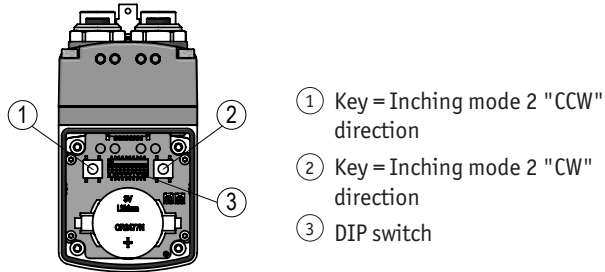
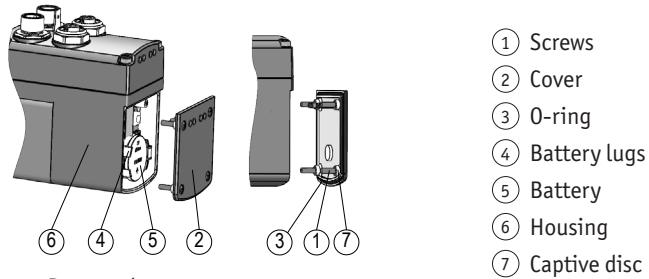

Fig. 10: Controls
Fig. 11: Battery change
The actuator has various LEDs, which indicate the statuses of drive and Ethernet module. The operating elements are located underneath the cover (**Fig. 10**, **Fig. 11**).
- ▶ Evenly tighten screws ① until cover ② is seated completely on stop on the housing ⑥ (Fig. 11).
- ▶ Take care that the O-ring ③ is seated correctly.
Deinstallation (Fig. 11):
Installation (Fig. 11):